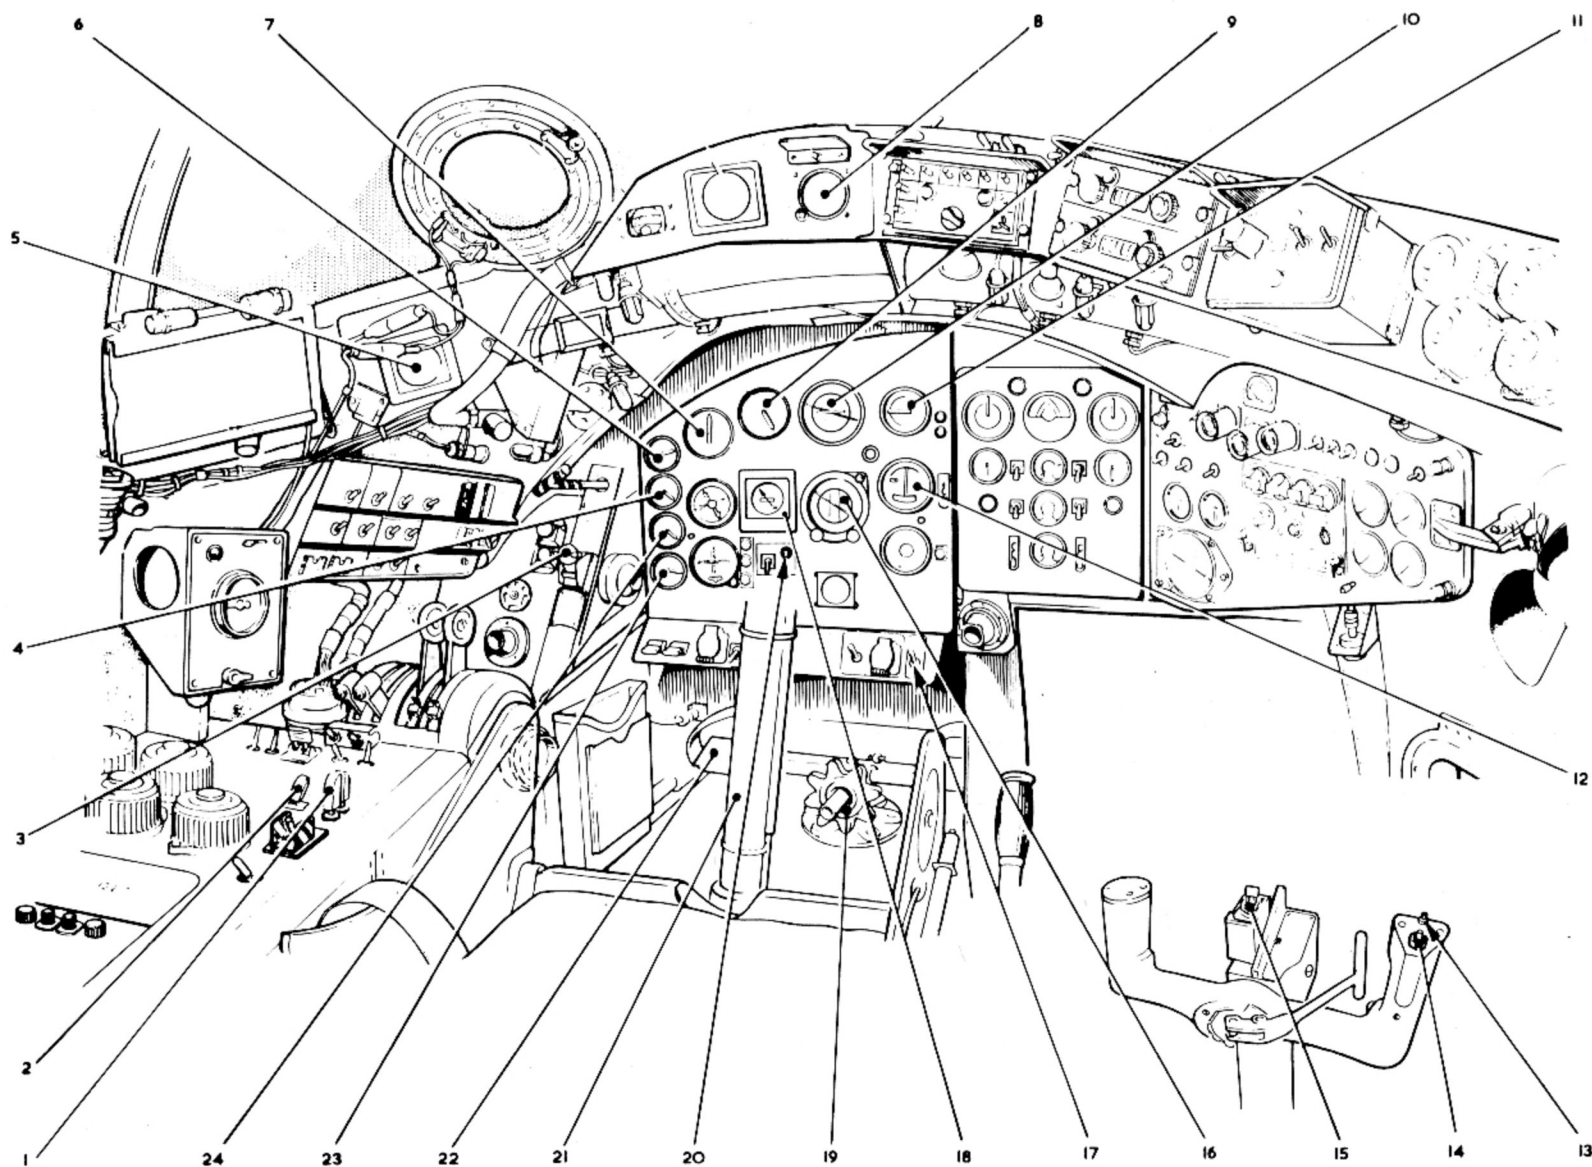

FIG. 1. FLYING CONTROLS AND INSTRUMENTS
KEY TO FIG.1 (FLYING CONTROLS AND INSTRUMENTS)
6. The flap selector lock pin is stowed in a small bag attached to the floor structure facing the entrance door. A divided container situated at the forward end of the console on the inboard side provides stowage for the pilot's maps and notes. A stowage block (Mod. 4925) for the pilot's ejection seat safety pins is installed on the cabin starboard wall above the entrance door. A stowage is provided on the coaming panel to accommodate a set of basic ejection drill cards (Sect.1, Chap.3, fig.1). The undercarriage and control surface locks are stowed within a container located on the inside of the battery compartment hatch.